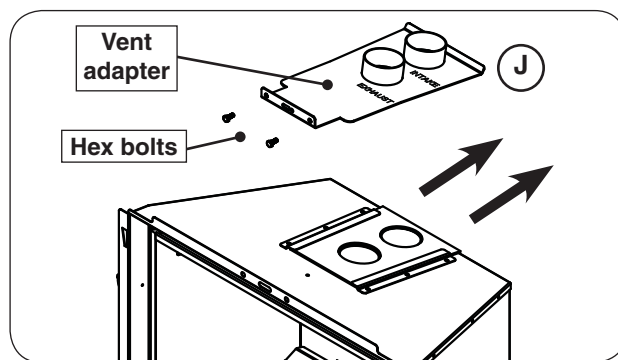

Fig. 22-1 Remove vent adapter
10. Remove the vent adapter from the top of the insert. Unfasten the two hex bolts using a $\frac{7}{16}$ " nut driver and slide the adapter out (see Fig. 22-1, J). Retain the bolts for future install.